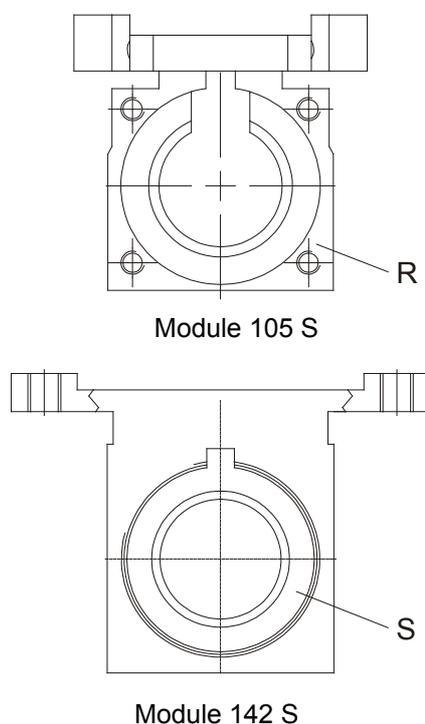

Figure 36: Tappet module 105S and module 142S
- Disconnect tappet from spindle nut; for module 105 S, the pressure plate (**R**), and for module 142 S, the threaded ring (**S**) (see *Figure 36, page 37*) must be removed from the tappet